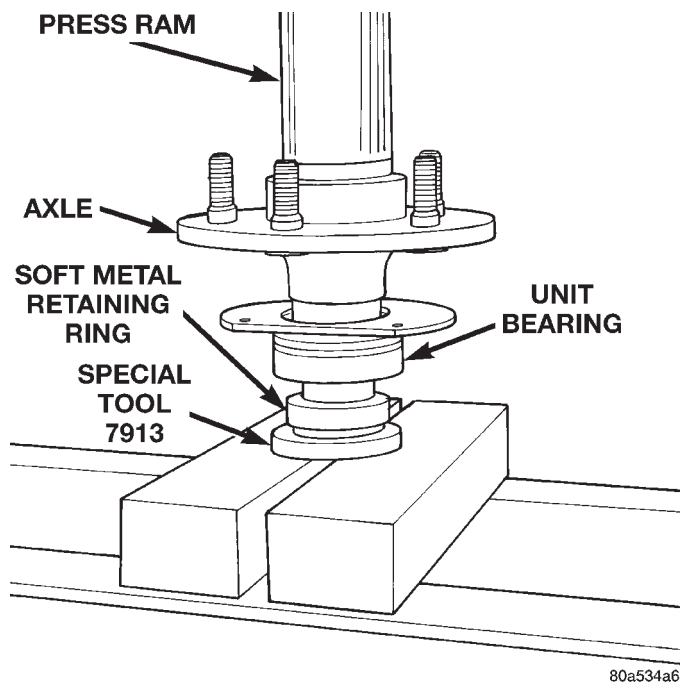

Fig. 17 Press Bearing Retaining Ring On Axle
(8) Using Installer 7913 and shop press, press soft metal retaining ring onto axle shaft (Fig. 17).
(9) Install axle in vehicle.